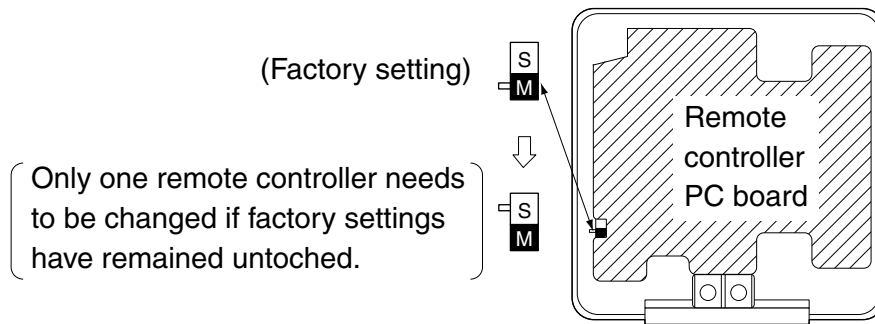

Fig. 33
- (2) Turn the **main/sub changeover** switch on one of the two remote controller PC boards to "S". (Leave the switch of the other remote controller set to "M".) (Refer to Fig. 33)